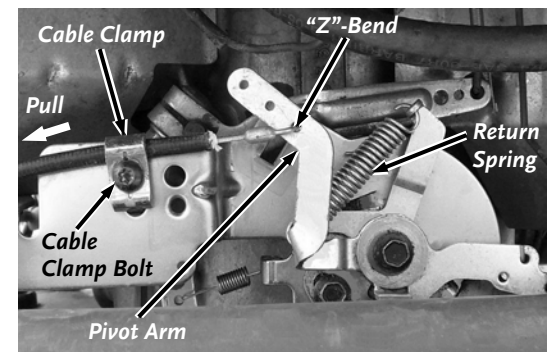

Figure 16
3. Insert the "Z"-Bend of the Cable end into the bottom hole in the Throttle Pivot Arm on the front of the Engine (**Figure 16**).